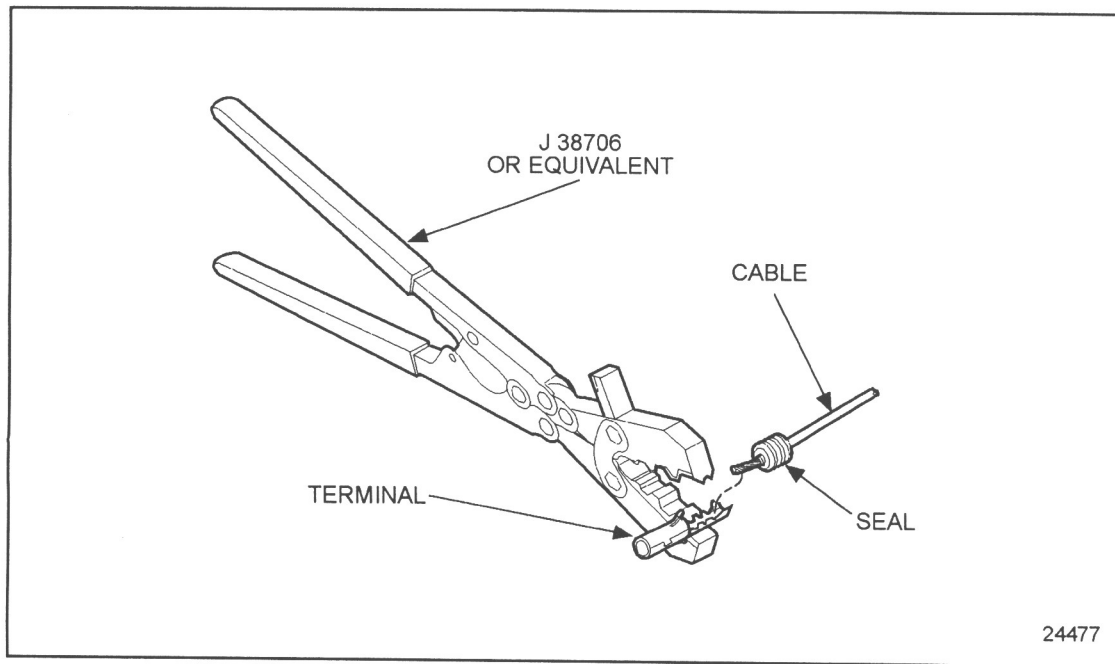

Figure 8-13 Crimping Procedure
9. Crimp new terminal onto wire using the crimp tool. See Figure 8-13.